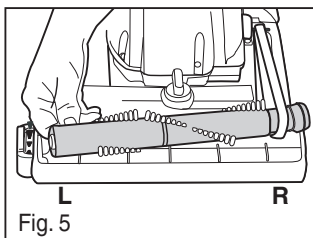

Fig. 5
- 5) Insert left end of brush roll first. Make sure end cap fits into base (Fig. 5). Pull right side of brush roll to stretch belt and insert right end cap into base. Make sure it slides into position.